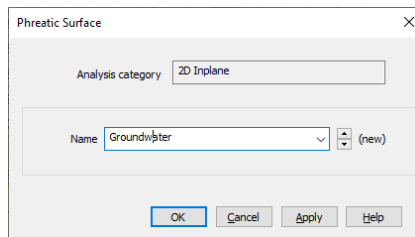

Figure 33: Definition of phreatic surface attribute
- Select **Attributes > Pore Water Pressures > Phreatic Surface...** to define a phreatic surface attribute. Enter a name of **Groundwater** and click **Apply** (figure 33), then change the name to **1st de-watering** and click **Apply**, then change the name to **2nd de-watering** and click **OK**.